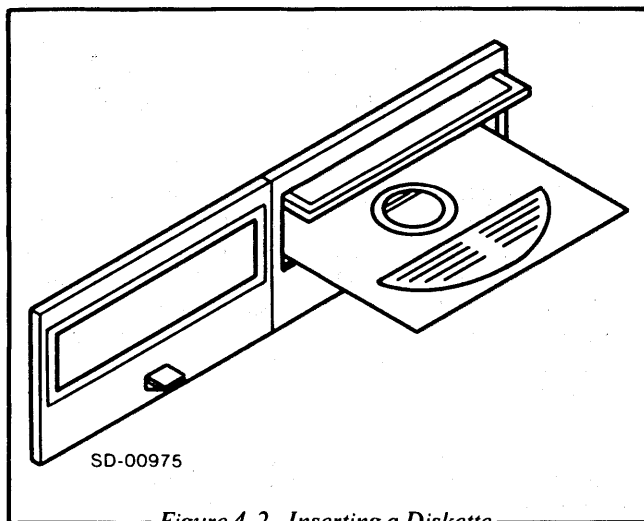

Figure 4-2. Inserting a Diskette
- Slide the diskette into the drive with the label on the envelope facing up, as shown in Figure 4-2. The diskette should slide in smoothly and come to a positive stop in the drive.